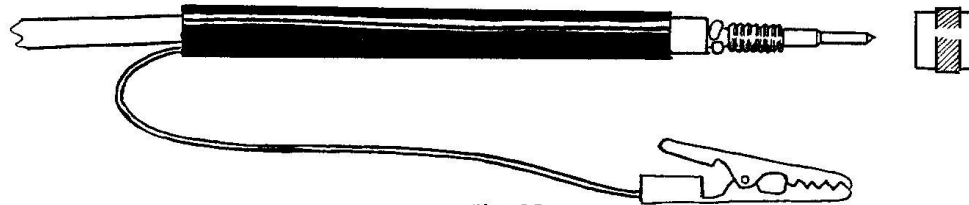

Fig. 15
2. () Fig. 15. Adjust the flat wire braid to a position parallel to the shielded lead and flat against it, the free end of the braid pointing toward the remaining long length of lead. Unscrew the collar from the tip of the red audio probe housing, and slide end A of the shielded lead through the housing until the inner conductor protrudes from the small hole in the tip. Wind the exposed inner conductor around the tip in the clockwise direction and then screw on the collar tightly to secure it. Finally, solder an alligator clip to the free end of the flat wire braid.